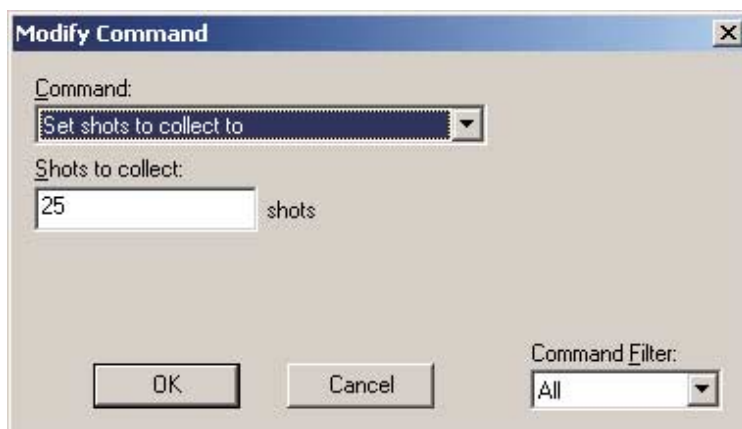

Figure 1-14: The **Modify Command** dialog.
- To change the values in a line in the spot protocol, double-click the line you wish to edit, and the **Modify Command** dialog will appear (Figure 1-14), enabling you to change the command or associated settings. Delete com-